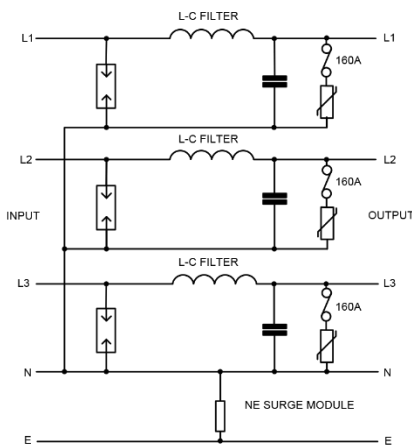
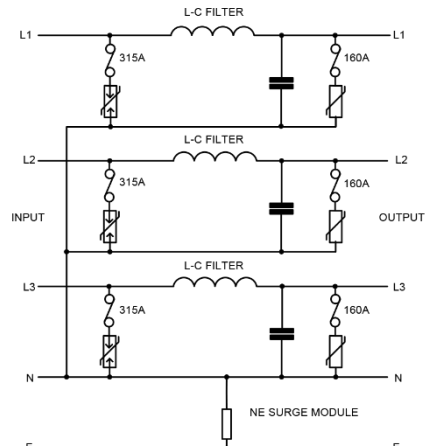

Figure 4
Figure 5
4. Connect the input and output power lines as illustrated in figure 4 and figure 5. Input cables are considered "dirty" and must be physically separate by at least 300 mm from the "clean" output cables. This will prevent any over voltage carried by the incoming cables from being induced onto the outgoing or "clean" cables.